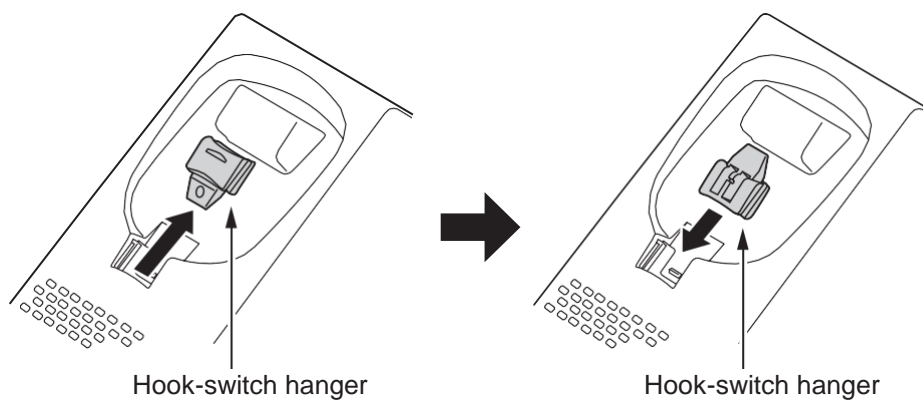

Figure 2-88 Hook-Switch Hanger
3. Remove the switch-hook from the unit. Turn the tab toward the top. Then slide the hook-switch into position. Refer to Figure 2-88 Hook-Switch Hanger.